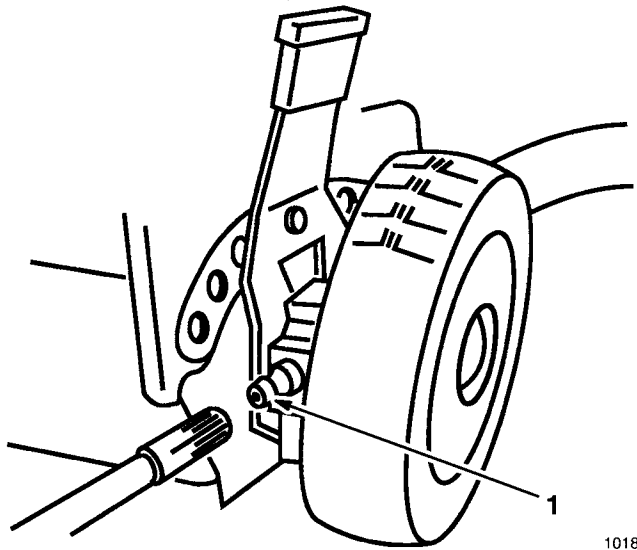

Figure 29
1. Wipe grease fittings on rear height-of-cut adjusters (Fig. 29) with a clean rag.